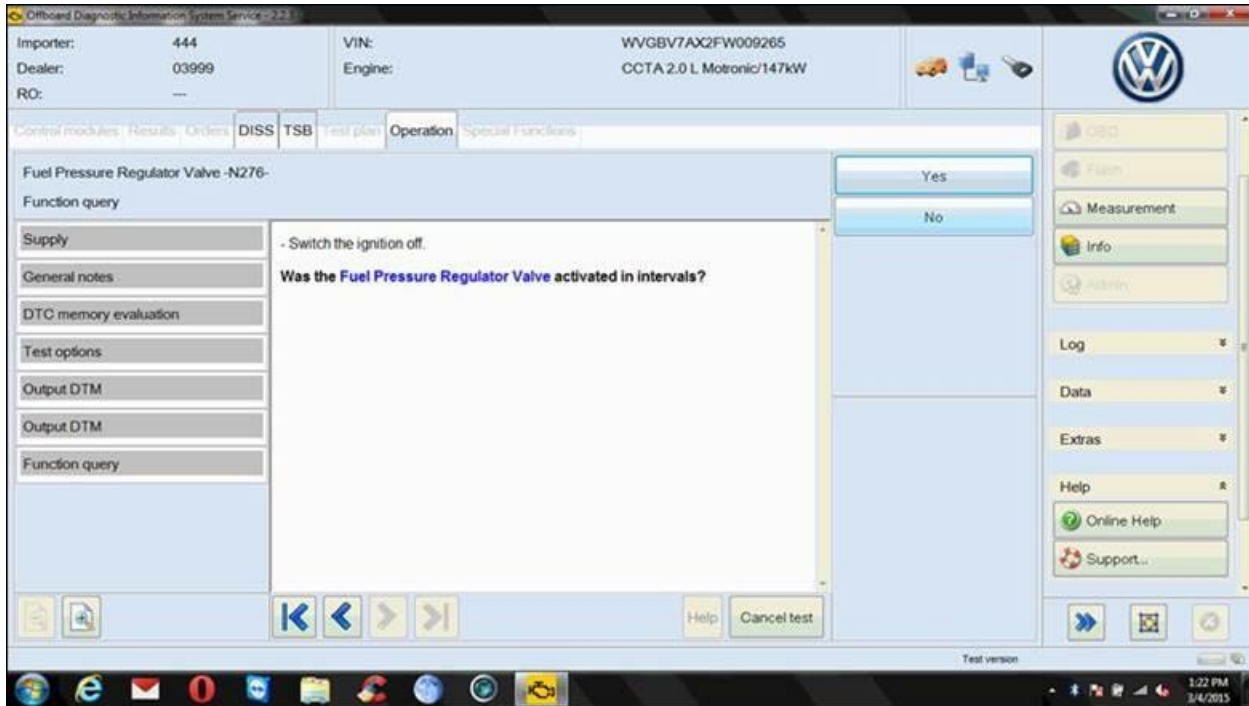

Figure 4
- When the test starts to check the operation of the N276 pressure regulator, listen for an audible “click” sound coming from the High Pressure Fuel Pump. Once test is complete, answer the question provided (Figure 4).